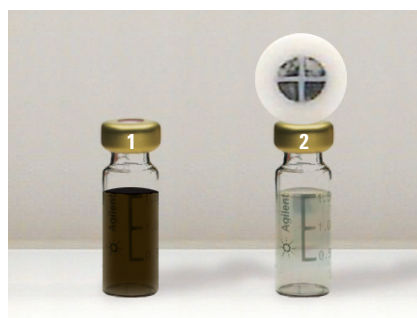

Figure 2. Filtering a carbon black polyethylene solution – 1. without filtration, 2. after filtration using a 1 μm glass-fiber filter
Filtration of polyolefin samples is often required to remove insoluble fillers or gel content (Figure 2). Two filter media are available:
- Glass-fiber (nominal porosity 1 μm) – the preferred system for general applications (Figure 2)